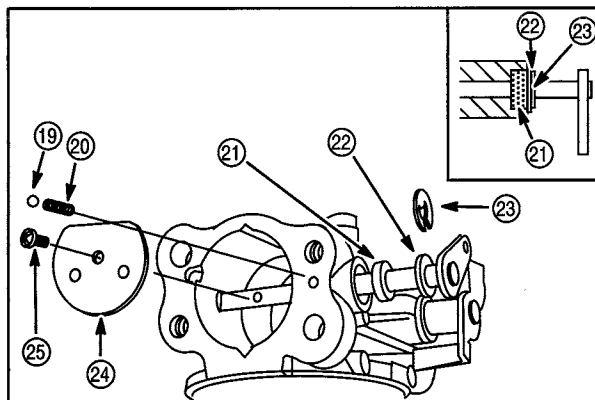

Fig. 31
13. Remove screw (25) and choke plate (24), Fig. 31.